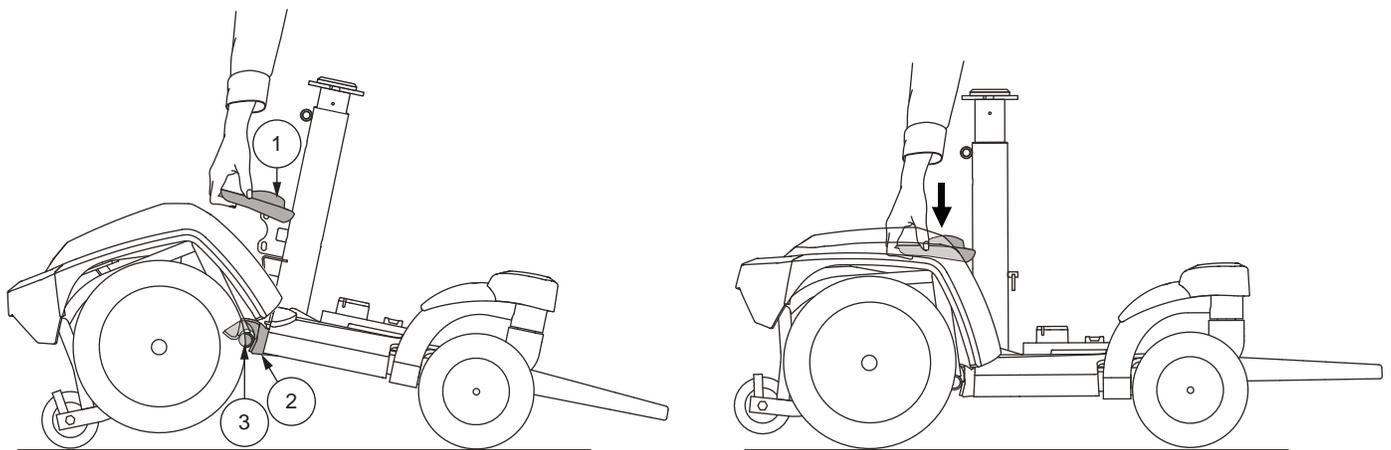

Figure 9. Go Chair Assembly
7. Disconnect two halves using the frame release lever. **See figure 9.**
1. Use the frame release lever to lift the front section as you align the frame hooks of the front section with the lower frame tube of the rear section. **See figure 9.**
2. Once the frame hooks are over the lower frame tube, lower the front section and pivot the rear section simultaneously. This will engage the frame lock-up automatically. **See figure 9.**